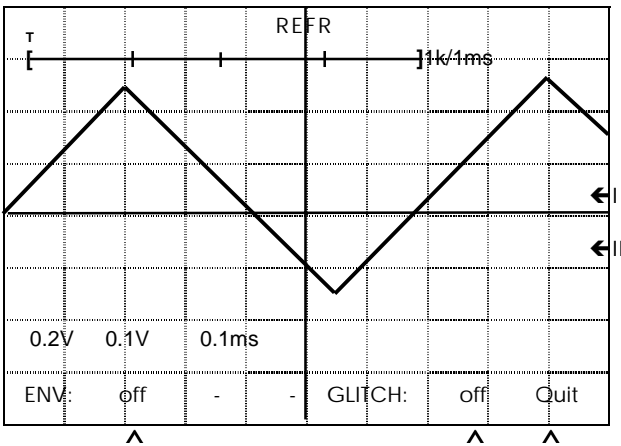
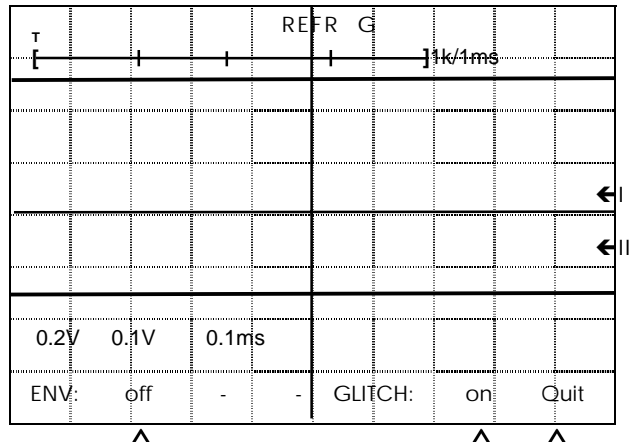

Figure 17 : Acquisition of an under-sampled signal without capture of glitch (false representation)
Figure 18 : Acquisition of an under-sampled signal with capture of glitch
When the signal is under-sampled, recordings obtained may be incorrect (figure 17). Glitch capture mode records the minima and maxima between each sample: in this case, maximum and minimum peaks are obtained, confirming the false representations (figure 18). It is also possible to detect false representations by comparing the signals displayed in analog mode and in digital mode, using the MEM key (5) (see paragraph 4.1. Operating modes).